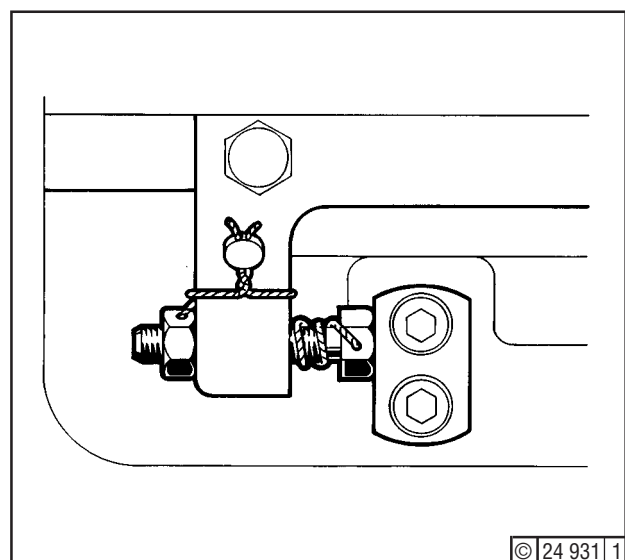

Fig. 9
7. Remove tools (Fig. 7). Move linkage in the direction "Stop" until one or more stop screws abut at points C12, C13 and C14 (Fig. 9).